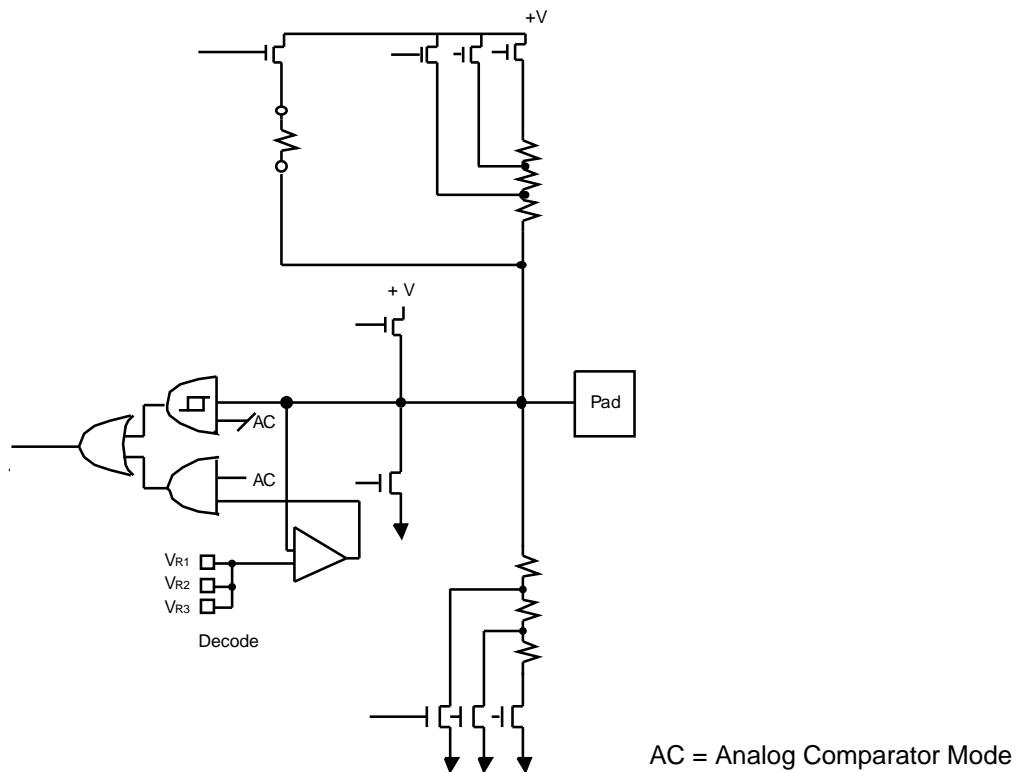

Figure 9. Port B (0–5) Quadrature Configuration
**Port B.** Port B (0–5) includes a Quadrature configuration (Figure 9), with programmable current sink and an analog comparator with programmable reference voltages (Tables 4–8).